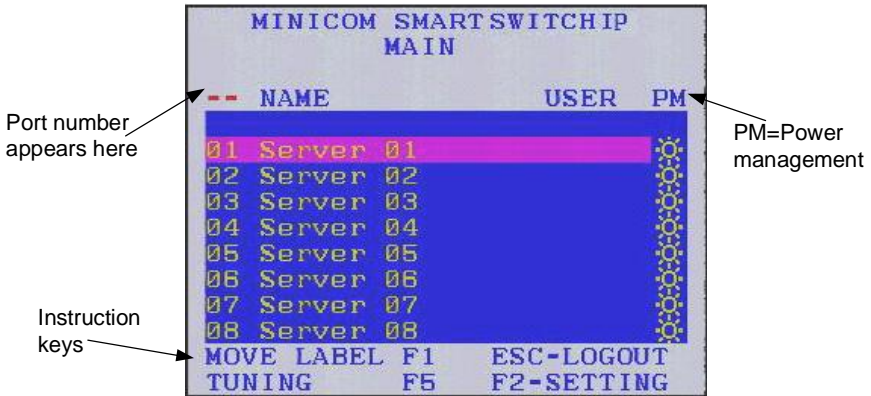

Figure 39 OSD Main window
1. From the local keyboard, press the left Shift key twice. The OSD Main window appears. See Figure 39. Lines with yellow text show active computers. Lines with blue text show inactive computers. The PM column indicates a server can be power managed.